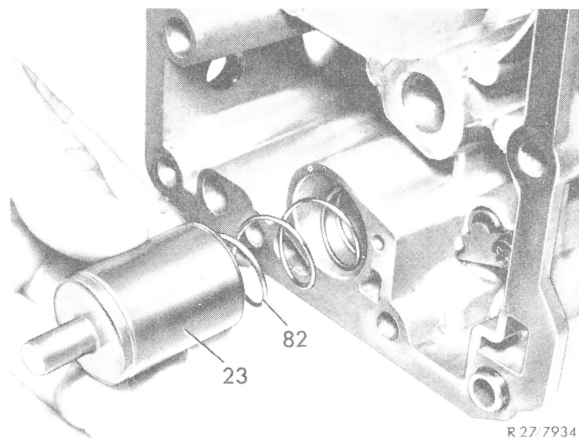

Fig. 41
Insert pressure-receiving spring (82) with pressure-receiving piston (23) in the sequence shown in illustration into rear transmission case (Fig. 41).